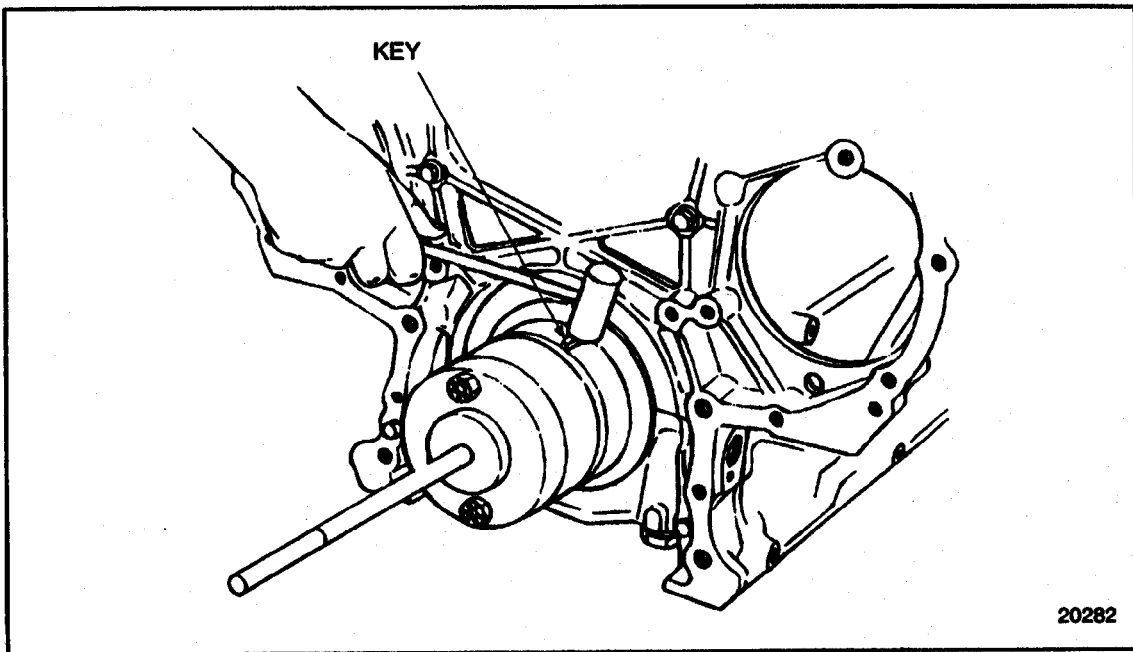

Figure 1-392 **Key-to-Keyway Installation**
2. If removed, install the key to the keyway. Tap the key with a plastic mallet or brass hammer to seat. See Figure 1-392.